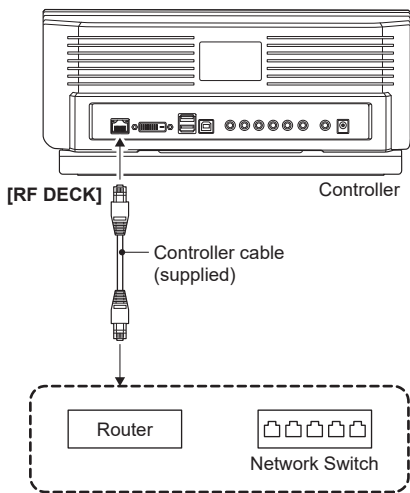

Figure 09-15. Connection with network switch or router (2)
- 8). Move the Controller and controller cable to the remote operation location and connect them to the network switch or router (LAN side) at the remote operation location. (LAN side) of the remote operation location (Figure 09-15).